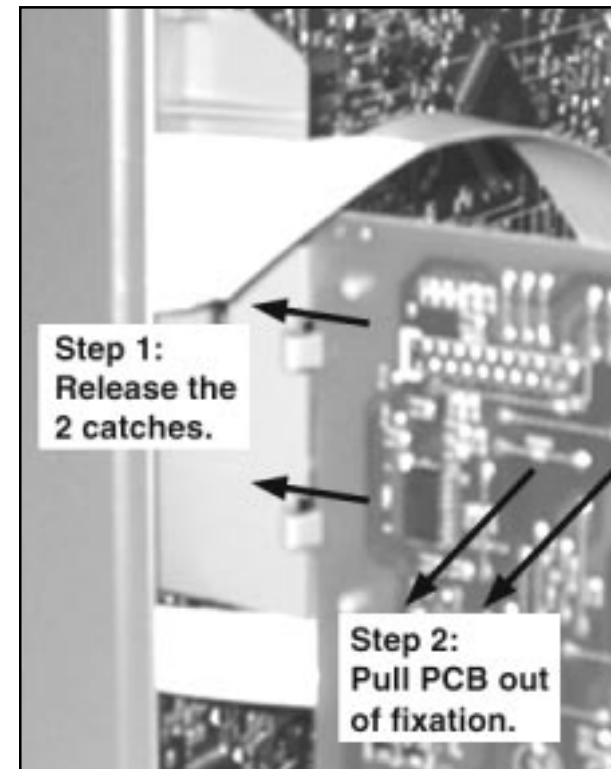
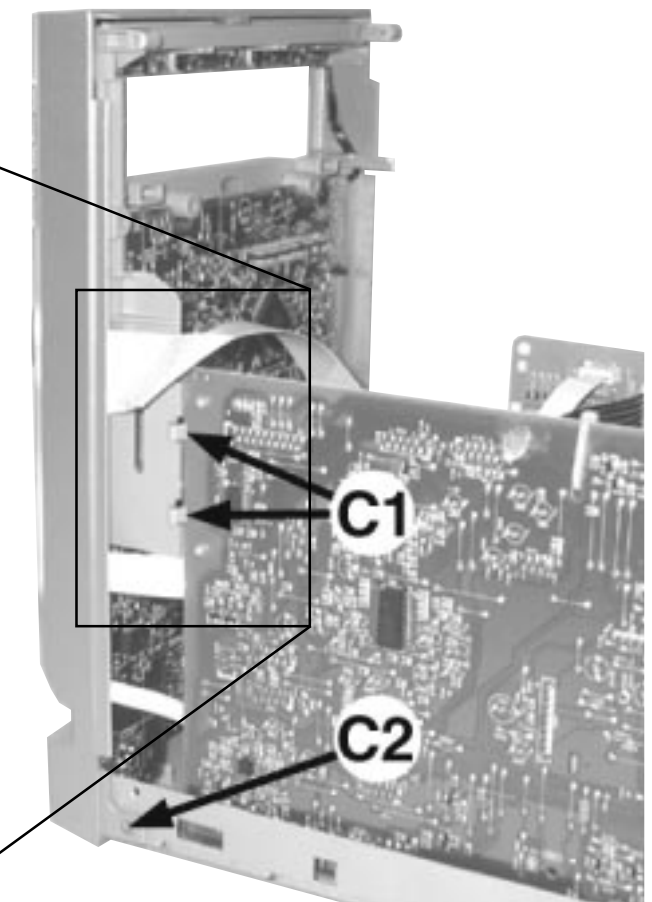

Figure 6
Figure 5
- 2) Release the fixation of the Combi Board (pos 1102-1001) to Bracket Combi (pos 252) by releasing the 2 catches C1 (see Figure 5) and pulling the Combi Board outwards as shown in Figure 6.
- 3) Uncatch 2 catches C2 (see Figure 5) on the left & right sides of the Cabinet Front (pos 101) and slides the Front Panel assembly out towards the front.